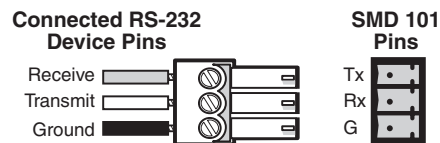

Figure 7. RS-232 Connector Wiring
- See figure 7 below, to wire the RS-232 connector.